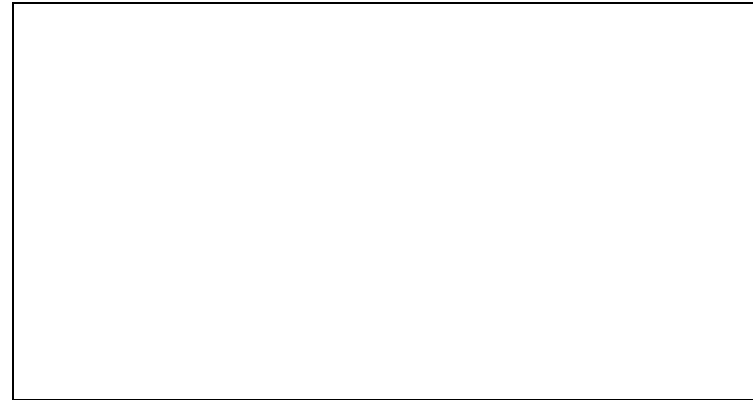

FIGURE 3. *Left*, CPU-AMCB assembly; *right*, disk module
**Step 3:** Place the disk module on its right side next to the CPU-AMCB assembly, with its P1 connector facing the P1 connectors of the CPU module and adapter module circuit board (see Figure 3). Pass the SCSI cable through the larger hole in the adapter module circuit board and attach it to the SCSI cable pins on the CPU module. Make sure the SCSI cable is fully seated at both ends. (Let the floppy cable hang free.)